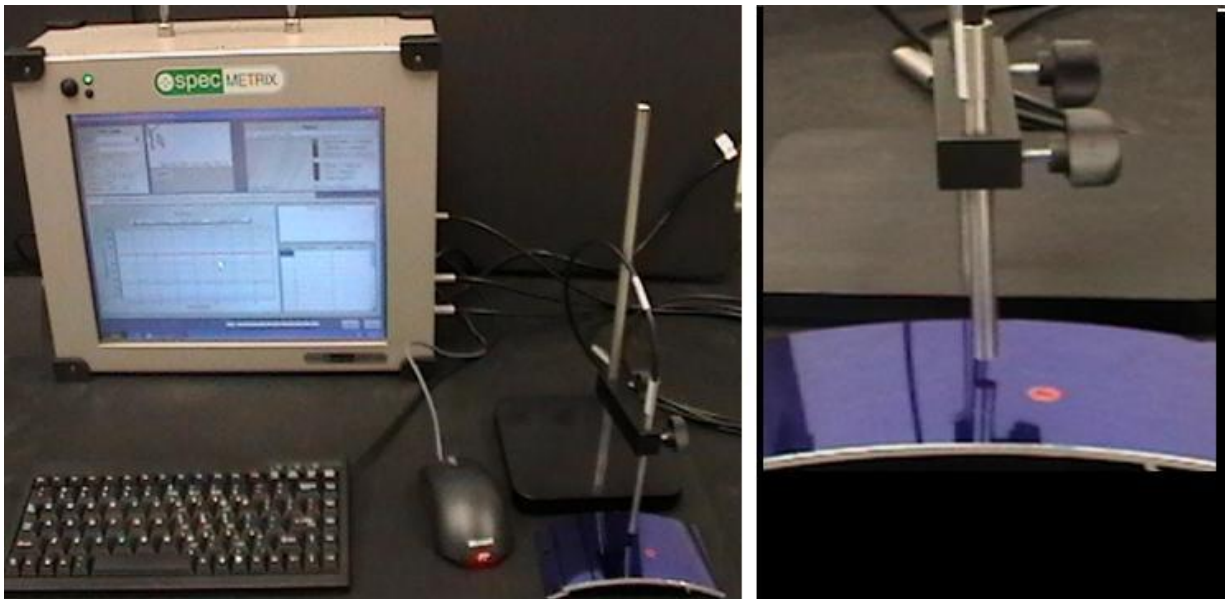

Figure 10 - SpecMetrix® Display Unit connections
2. Adjust the probe to be approximately 5mm above the sample as in Figure 10.